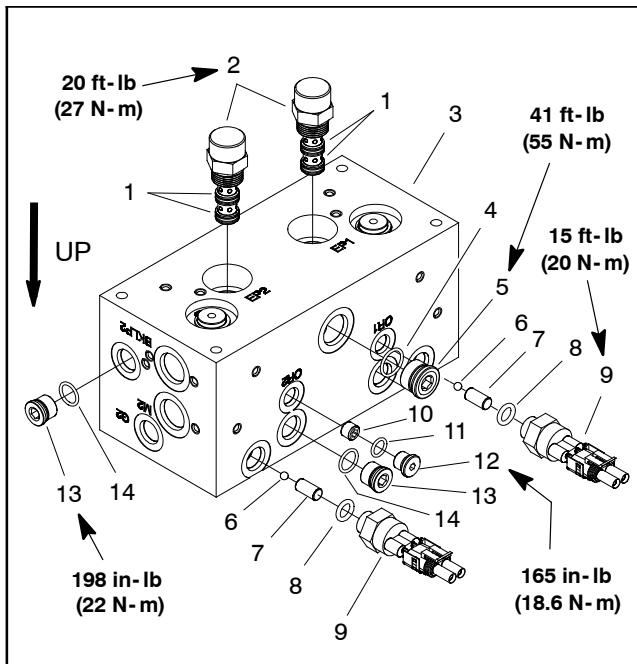

Figure 76
- A. Remove backlap switch from mow manifold before removing mow/backlap spool (Fig. 76). Remove dowel pin and ball from manifold port after switch is removed. Remove and discard O-ring from switch.
F. Place ball and dowel pin in backlap switch manifold port (Fig. 76). Install new O-ring onto backlap switch. Thread backlap switch into port and torque **15 ft-lb (20 N-m)**.